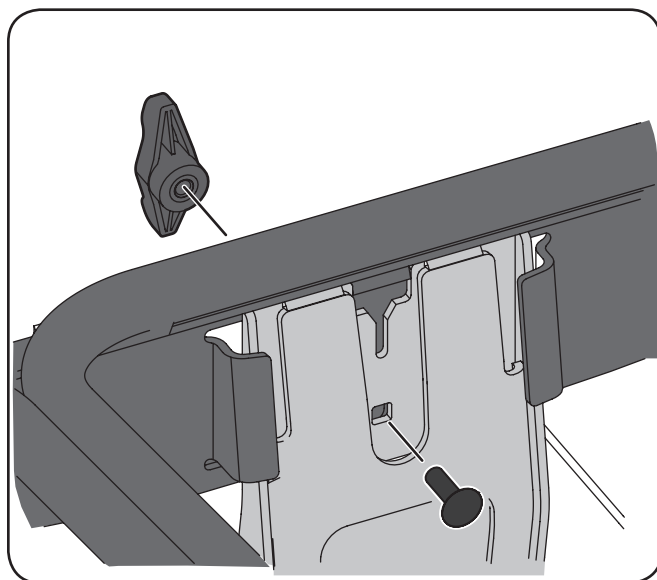

Figure 4-8
6. Install the hanger assembly onto the upright support bracket using a carriage bolt (710-0276) and wing knob (720-04122) from hardware pack 689-00328A. See Figure 4-8.